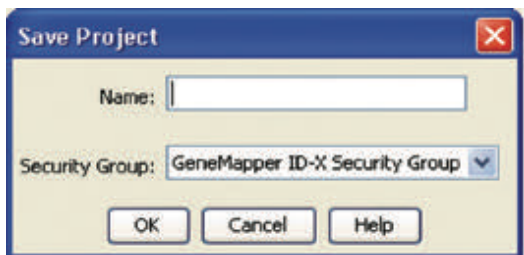

Figure 19. The Save Project window.
9. If all analysis requirements are met, the Save Project window will open (Figure 19).